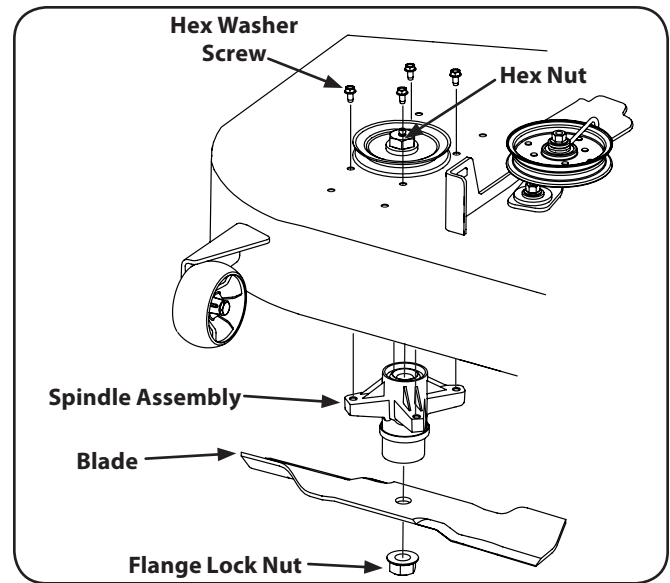

Figure 7-10
2. Use a  $\frac{3}{4}$ " wrench to hold the hex nut on top of the spindle assembly when loosening the hex nut securing the blade. See Fig. 7-10.
2. Remove the hex washer screws securing the belt covers to the deck and remove the belt from the spindle pulleys. Refer to Fig. 7-10.